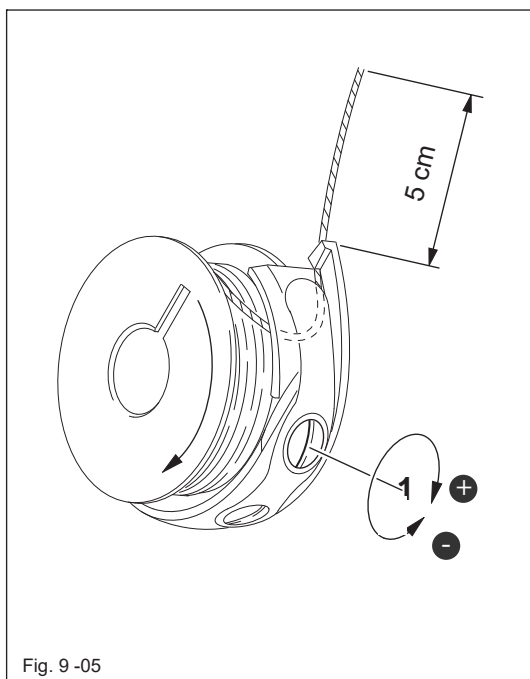

Fig. 9 -05
- Insert the bobbin as shown in **Fig. 9 - 05**.